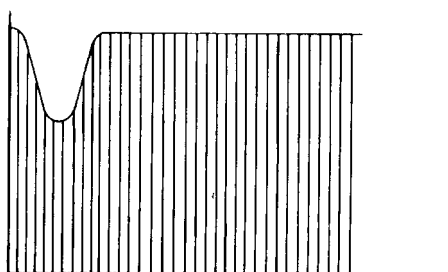

Fig. 7
- 3) Adjust SF404 so that waveform on the oscilloscope becomes fig. 7.